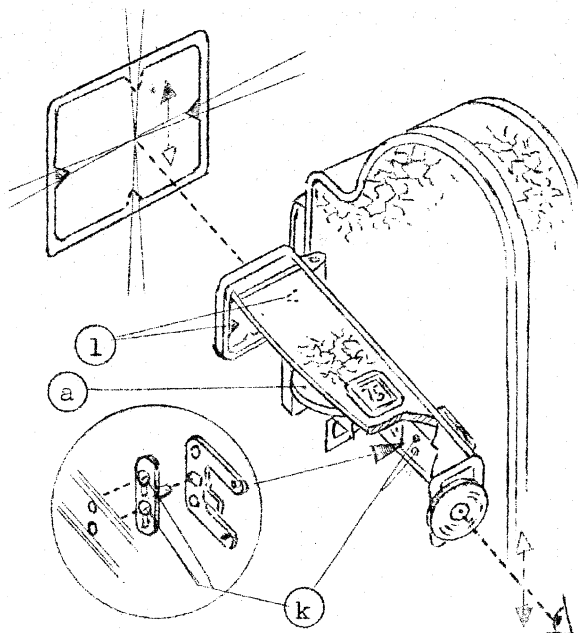

Fig. 5
2.1 Vertical adjustment (fig. 5)